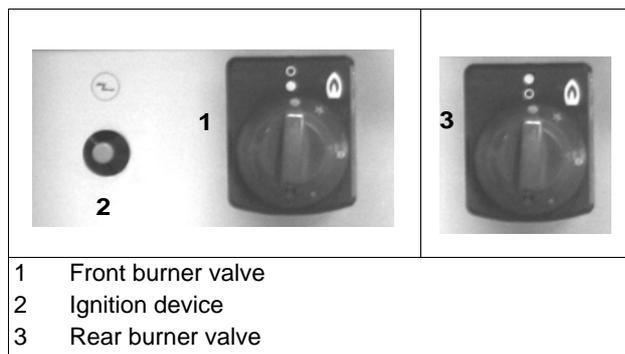

Fig.9 Control panel
The knobs (VB and HB Fig.9) have four main settings:
- ⇒ Push rotary switch (1, 3 / Fig.9) fully in.
- ⇒ Hold the knob (1, 3 / Fig.9) fully pressed in.
- ⇒ At the same time, ignite the gas escaping at the pilot burner with the piezo ignition device. The burner is ignited by pushing the knob (2) .
- ⇒ Press the knob (VB, HB / Fig.9) in lightly and turn it from the pilot burner ignition position (★) anti-clockwise to the high (🔥) position.
- ⇒ Push the knob (2/ Fig.9) fully in and turn it anti-clockwise from the high setting (🔥) towards the lowest (🔥) setting.
- ⇒ To return from the lowest setting (🔥) towards the highest setting (🔥), push the knob (1, 3 / Fig.9) fully in and turn it clockwise.
- ⇒ Turn the knob (VB, HB / Fig.9) back clockwise from the high (🔥) to pilot burner ignition (★).
- ⇒ Press the knobs (VB, HB / Fig.9) lightly and turn clockwise from the high (🔥) to pilot burner ignition (★).
- ⇒ Turn off the main gas tap (1 / Fig.9).